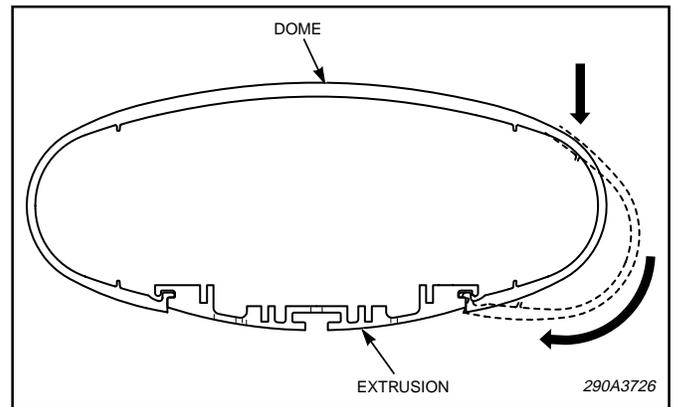

Figure 9.
3. Push down and rotate the center dome to allow it to disengage from the extrusion as shown in figure 9.